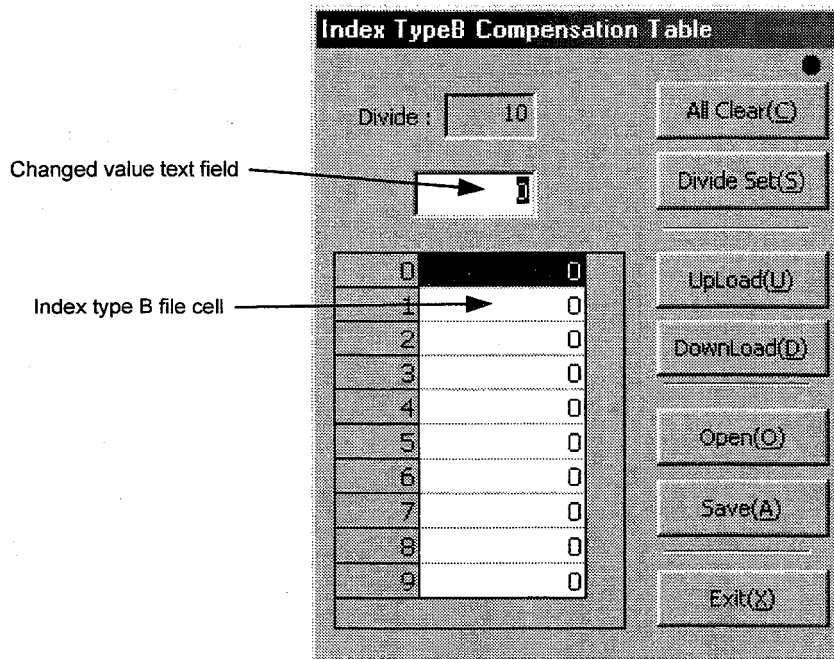

Figure 7.50 "Index TypeB Compensation Table" dialog box
Click "*Table Edit (E)*" in the "Index Type B" dialog box to display the "Index TypeB Compensation Table" dialog box (see Figure 7.50).